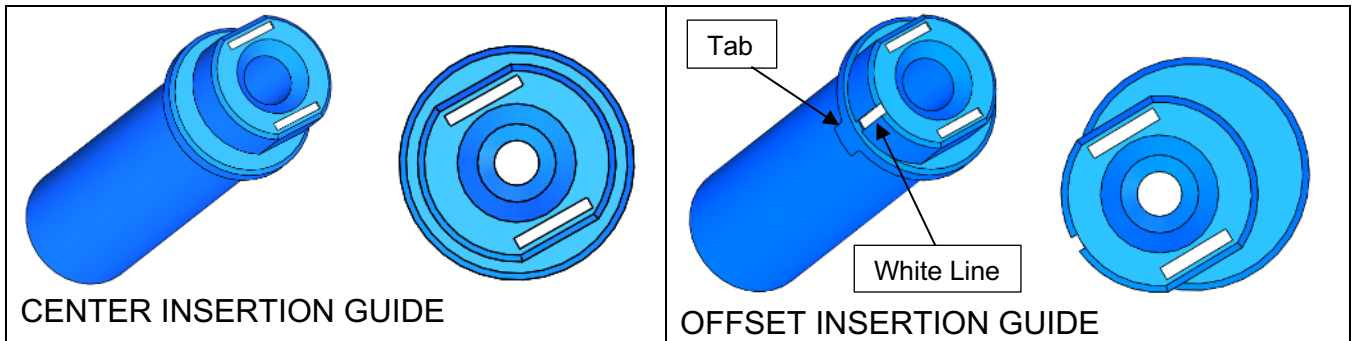

Figure 27: Center Insertion Guide (Left) and Offset Insertion Guide (Right)
1. Once the trajectory and desired channel position is confirmed, use either CENTER Insertion Guide or the OFFSET Insertion Guide to prepare for device insertion. The insertion guides are blue with "racetrack" features on the top. **See Figure 27.**
2. Use the CENTER Insertion Guide if the center channel was selected. Use the OFFSET Insertion Guide if one of the outer channels was selected. The Offset Insertion Guide has a White Line and a Tab on its side, and the hole is offset from the center. **See Figure 27.**